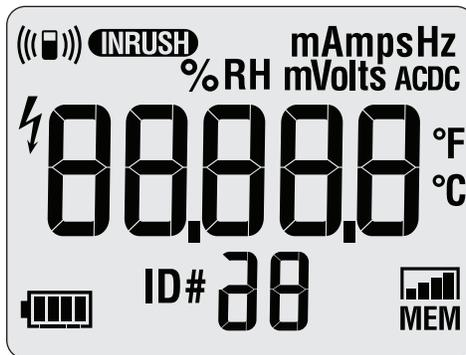

Figure 2. All Segments of the Display
2. Push **⓪** while you keep **LOG** pushed until all of the display segments are shown. See Figure 2.